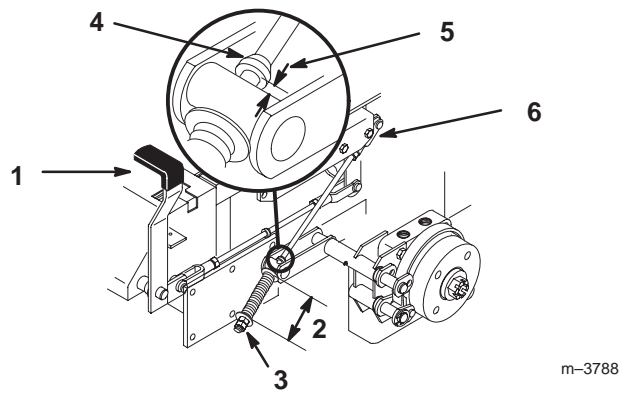

Figure 55
2. Measure the length of the spring. Measurement should be 2.75 in. (70 mm) between washers (Fig. 55).
3. If adjustment is necessary, loosen the jam nut below the spring and tighten the nut directly below the yoke (Fig. 55). Turn the nut until the correct measurement is obtained. Tighten the two nuts together and repeat on opposite side of unit.
6. Measure the distance between the trunnion roller and the collar on brake rod. Measurement should be 3/16–1/4 in. (5–7 mm) (Fig. 55).
7. If adjustment is necessary, loosen the jam nut directly below the yoke. Turn the bottom rod until the correct measurement is obtained (Fig. 55). Tighten jam nut at yoke.